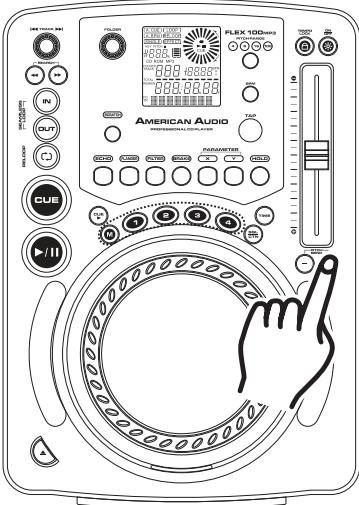

Figure 31
The (+) PITCH BEND BUTTON (11) will increase track playback speed and the (-) PITCH BEND BUTTON (11) will decrease track playback speed. The extent to which the speed changes is proportionate to the amount of time the button is pressed. For example, if the (+) PITCH BEND BUTTON (11) is held down continuously as in figure 31, the disc speed will increases and will continue to increase until it reaches a maximum of 100% speed gain. When you release the (+) PITCH BEND BUTTON (11) the disc speed will automatically return to its previous set speed.